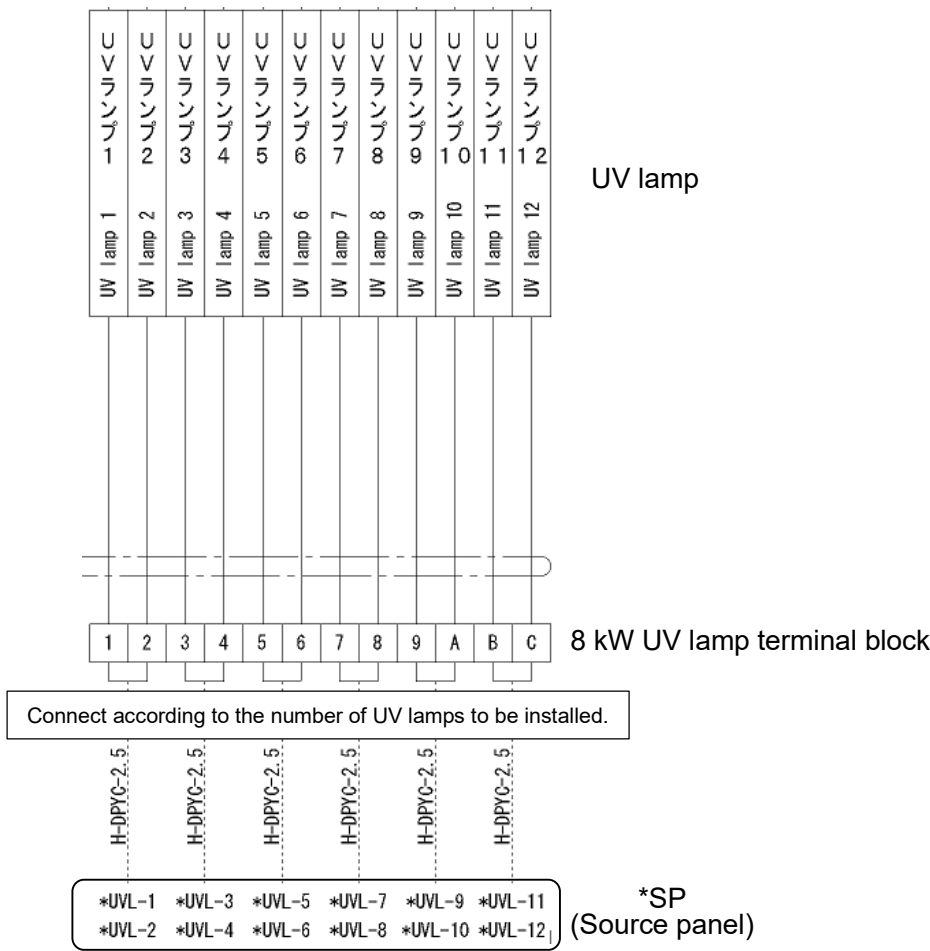

Figure 7: Wiring connection of UV reactor (motor side)
- a) Connect the UV lamp wiring to the 8 kW terminal block according to the wiring diagram shown in Figure 7. Connect the wiring so that the UV lamp No. stickers after they have been replaced match the 8 kW terminal numbers.